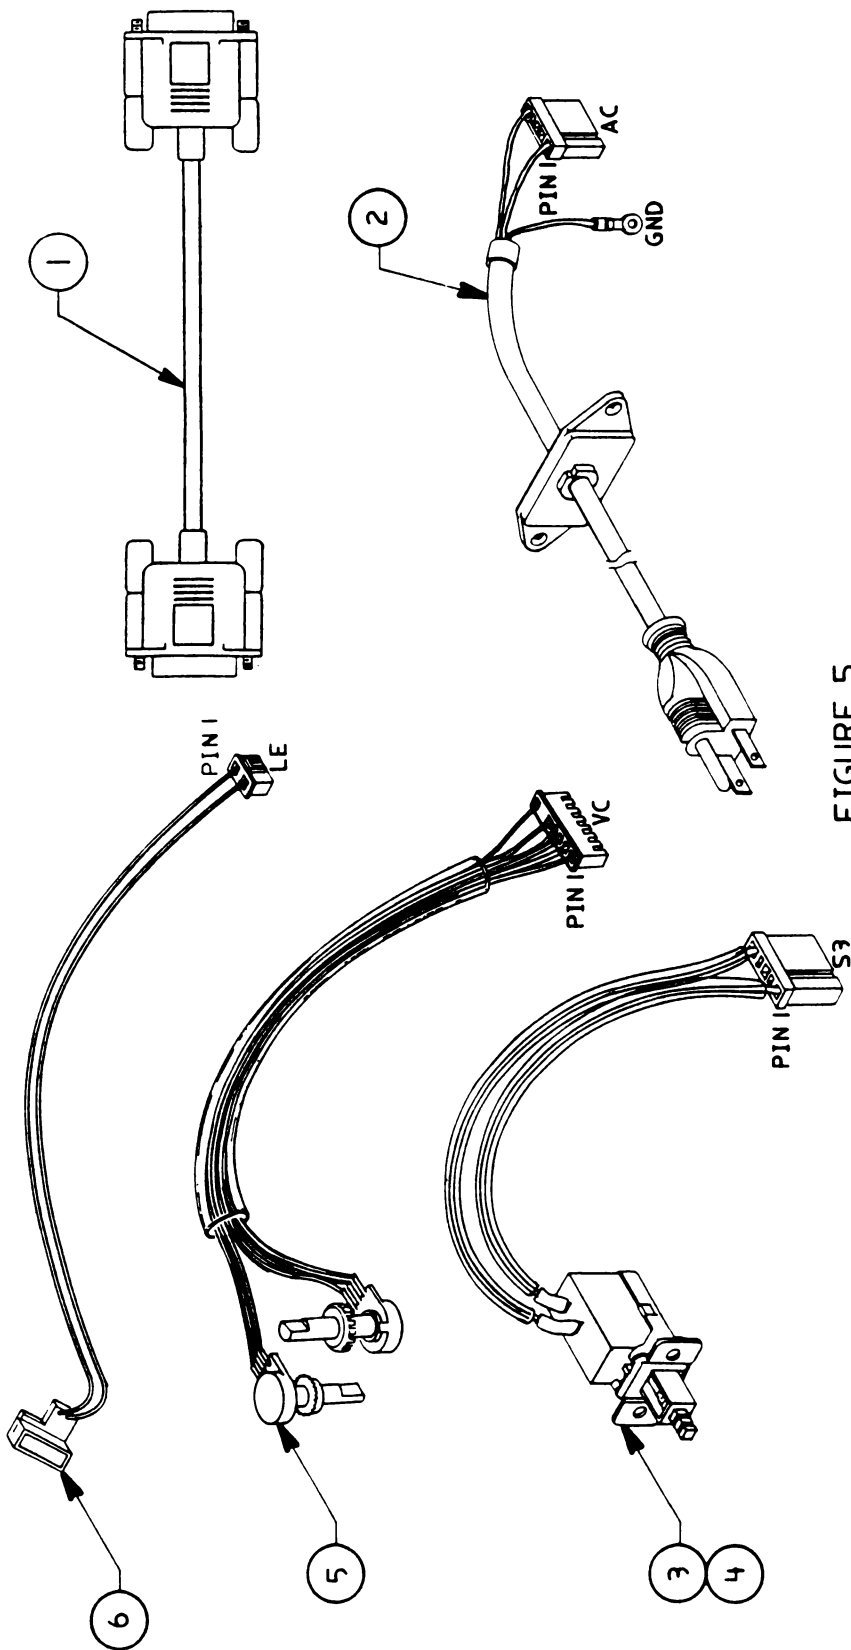

FIGURE 5
- 5.11 Cables and AC Cord (Figure 5)
□ RGB MONITOR—CABLES AND AC CORD (Figure 5)